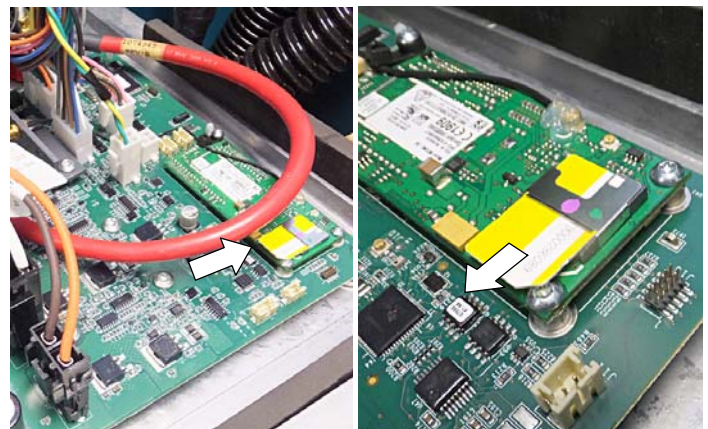

Fig. 3
5. Remove the telemetry SIM card from the defective control board and save (Figure 3).